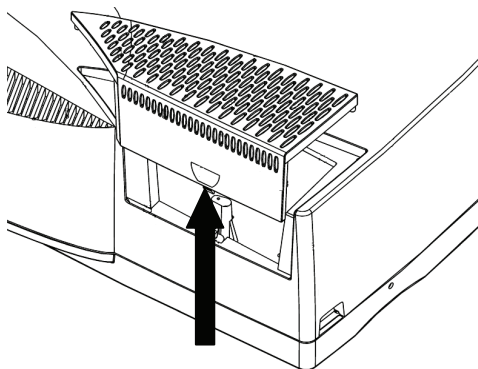

Figure 33 Removing the lamp cover
2. Remove the lamp compartment cover by lifting vertically from the handhold on the rear of the instrument, as shown in Figure 33.